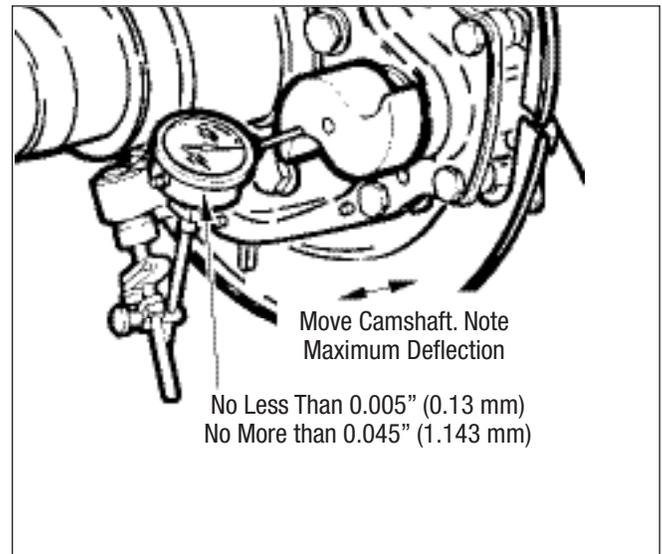

Figure 10 - Brake Adjuster End Play Check
6. Mount a suitable dial indicator with the plunger referencing the end of the cam head (see *Figure 10*).